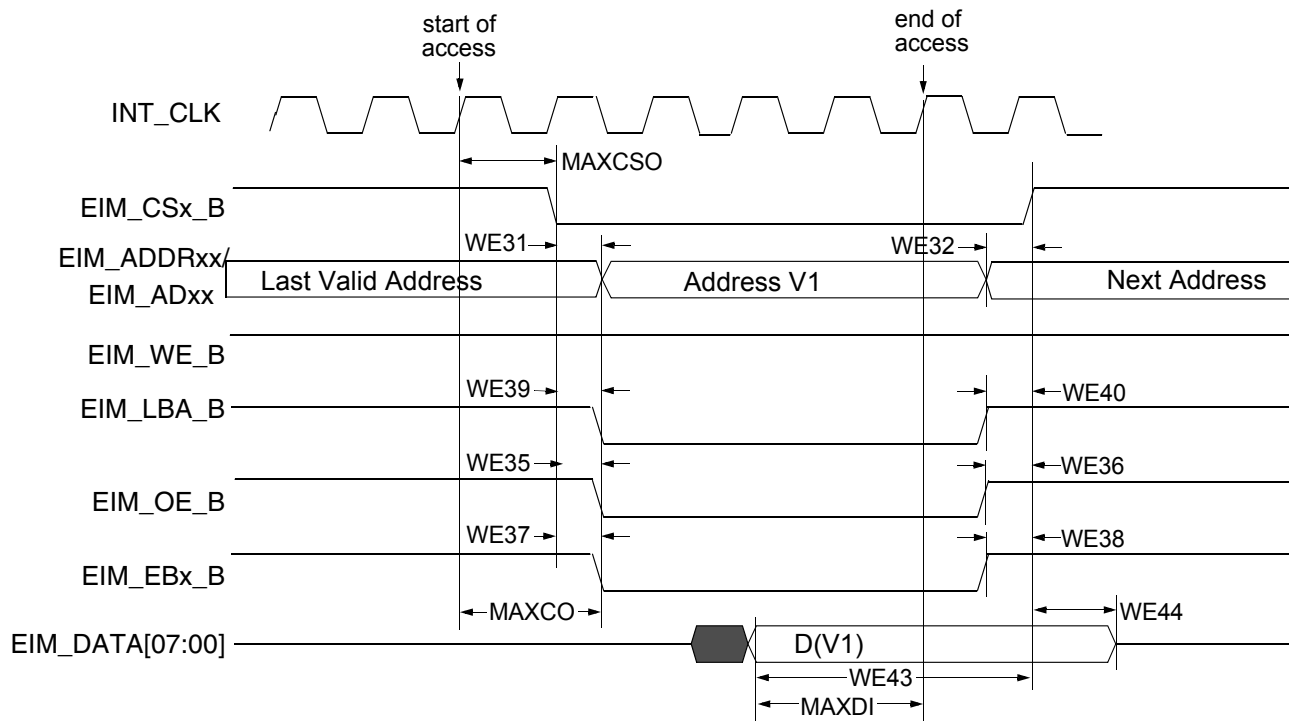
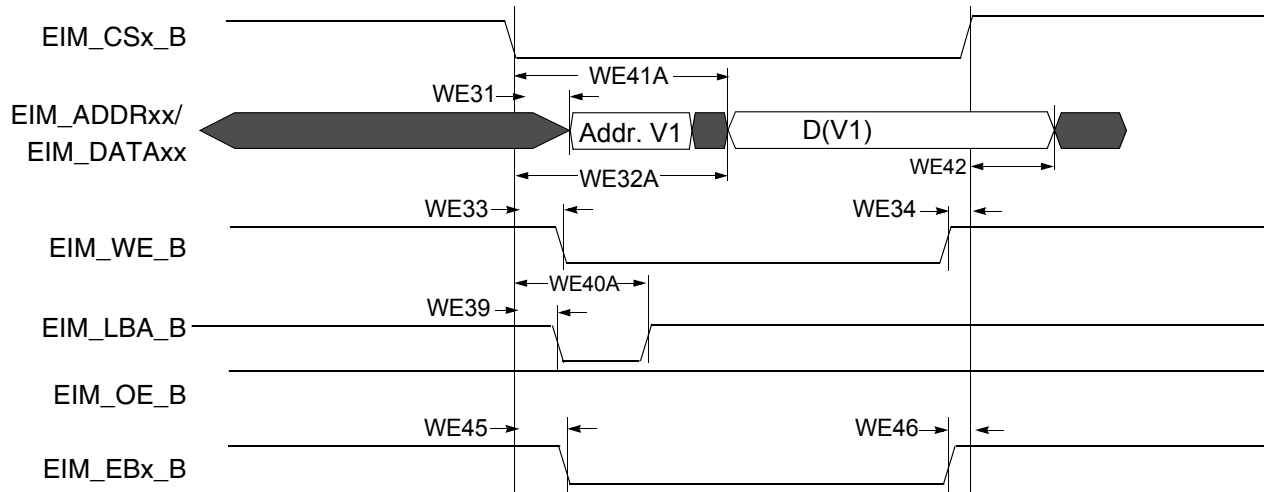
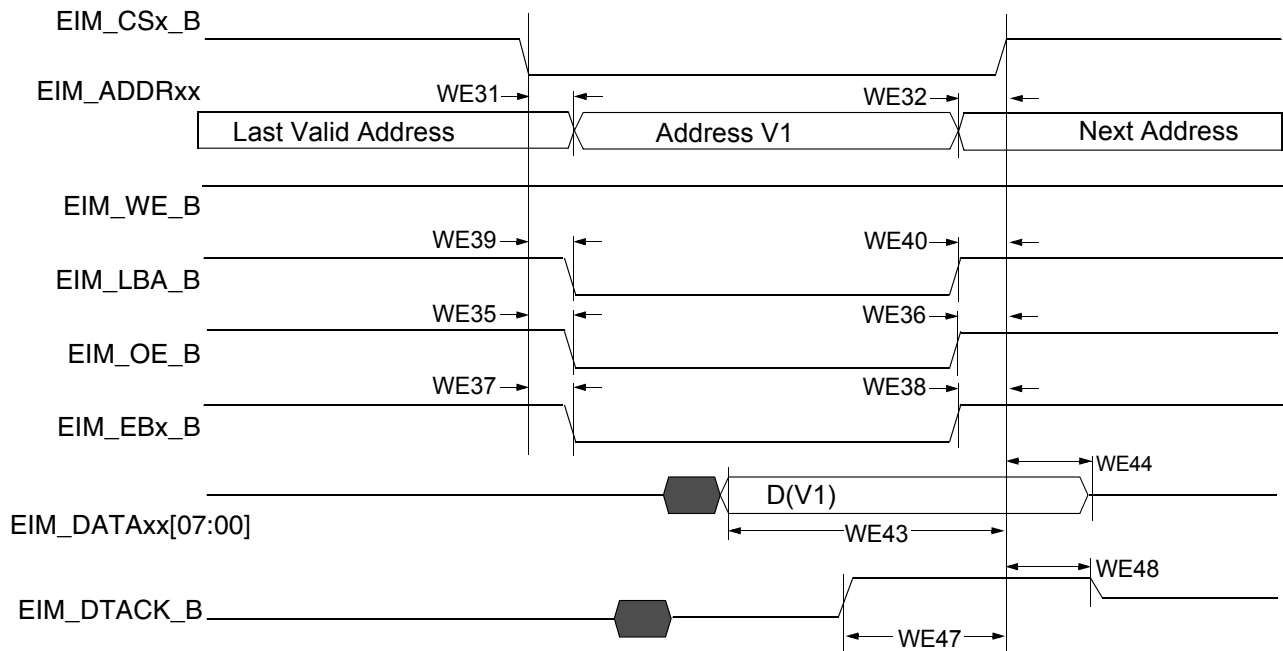

Figure 16. Asynchronous Memory Read Access (RWSC = 5)
Figure 19. Asynchronous A/D Muxed Write Access
Figure 20. DTACK Mode Read Access (DAP=0)
Figure 16 through Figure 20 and Table 38 provide timing parameters relative to the chip select (CS) state for asynchronous and DTACK EIM accesses with corresponding EIM bit fields and the timing parameters mentioned above.
Asynchronous read and write access length in cycles may vary from what is shown in Figure 16 through Figure 19 as RWSC, OEN & CSN is configured differently. See the i.MX 6DualPlus/6QuadPlus reference manual (IMX6DQPRM) for the EIM programming model.